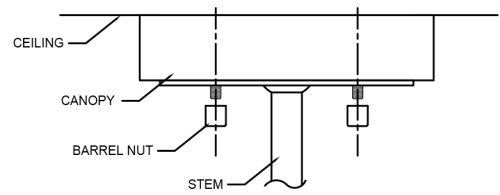

FIGURE-03
7. Pull up & attach the canopy to the mounting strap and secure it with barrel nuts. (See Figure-03)